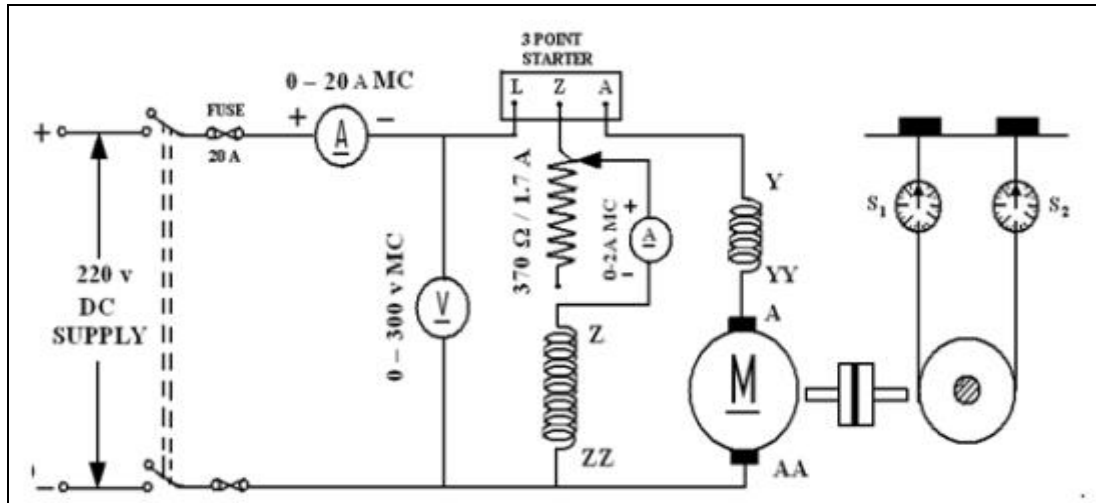

Figure 8 - Brake test on DC compound motor
1. Calculate the efficiency of DC compound motor under different load conditions in Figure 8.